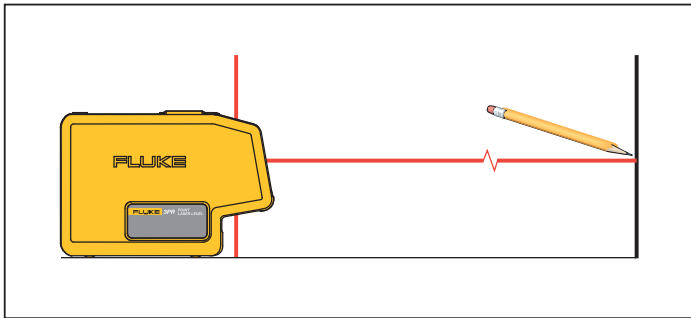

Figure 1. New Level Mark
2. Turn the Product around on its center until the horizontal laser points to the target area. See Figure 1.